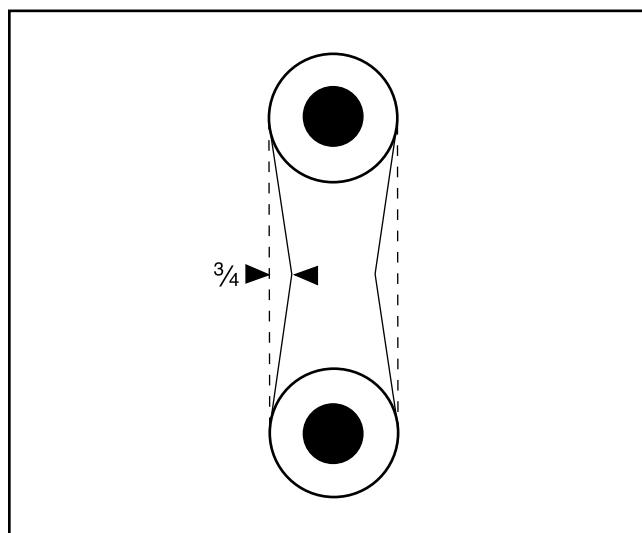

Figure 37.
2. Note the amount of deflection. Deflection should be approximately $\frac{3}{4}$ ". **Figure 37.**